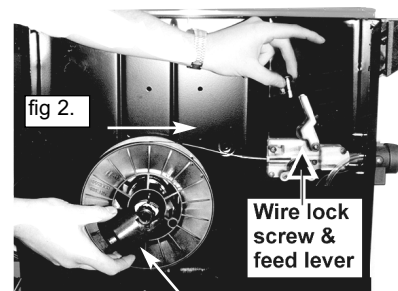

fig 2a.
- 3.4.2. To secure the reel of wire take the plastic spacer and identify the two cut outs at one end (fig 2a). Place the spacer over the holder end springs and onto the reel holder ensuring the two cut outs are facing inward toward the reel of wire (fig. 2).